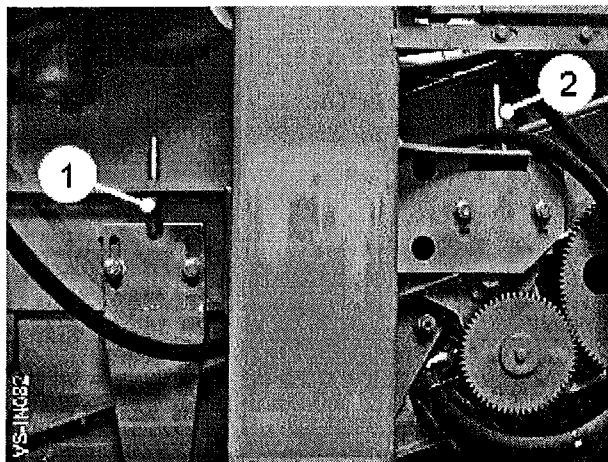

Fig 17
The button  starts/stops the 2nd web and pre-set speed is adjustable via the service terminal. The web module is mounted on adjusters (item 1 & 2, fig 17) to allow optimum setting of crop transfer on and off the web.